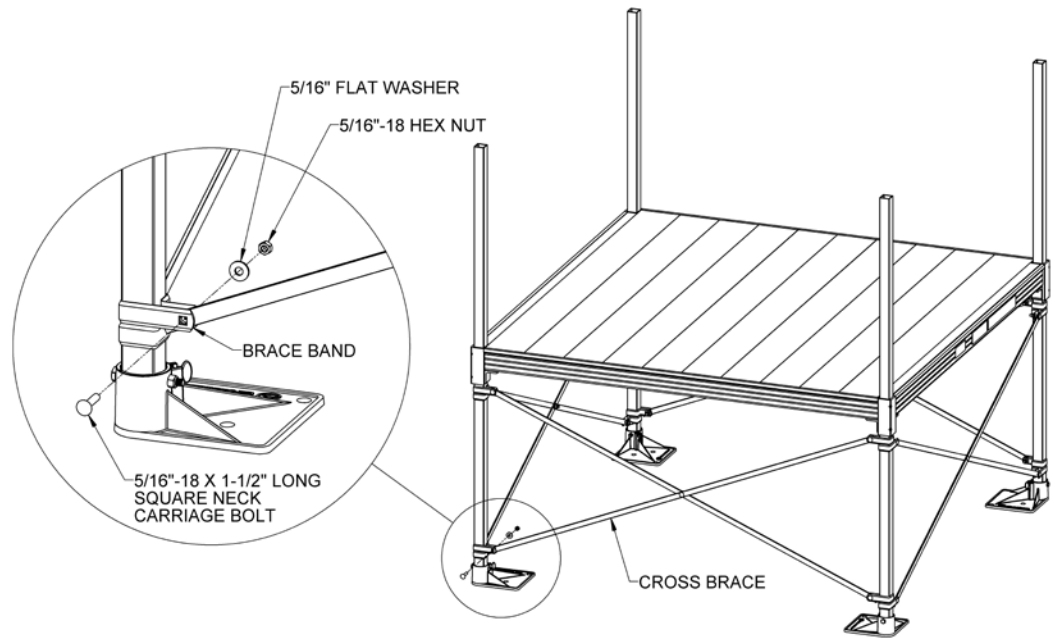

FIG. 7
- 1.11.6 Install cross brace assembly using four 5/16"-18 x 1-1/2" long square neck carriage bolts, nuts and washers in the desired location (FIG. 7).